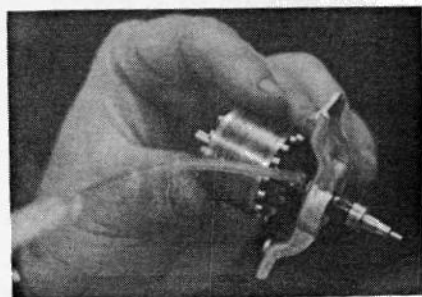

FIG. 11—DEGREASE, THEN LUBE the upper motor bearing before replacing the motor on the turntable.
8. Refer to Fig. 11, and liberally spray the upper motor bearing and shaft with the degreaser. Then, apply a drop of lubricant to the shaft and work it (the shaft) in and out of the top bearing. Continue adding lubri-